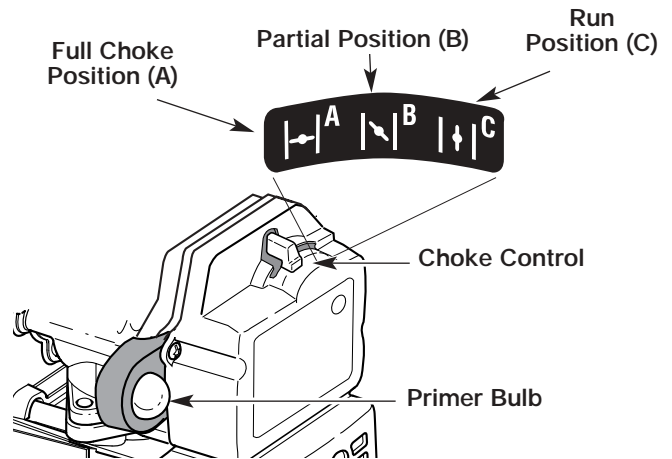

Figure 18
3. Fully press and release primer bulb slowly 5 to 7 times. Fuel should be visible in the bulb. If fuel is not visible, press three (3) more times, or until it is. See Figure 18.
4. Place the choke lever in the FULL choke position (A |←|). See Figure 18.
5. With the unit on the ground, squeeze the throttle control and pull starter rope briskly. See Figure 18. Continue pulling until the engine sounds as though it wants to run (normally 2 to 5 pulls).
6. Place the choke lever in the PARTIAL choke position (B |←|). See Figure 18.
9. Squeeze the throttle control to warm up engine for 5 to 10 seconds. Place the choke lever in the RUN position (C |←|). See Figure 18.